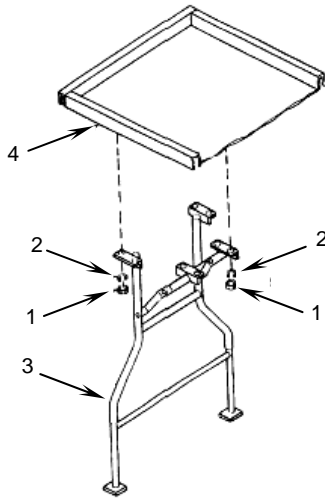

Figure 1. Repairing Drain Table.
- a. Remove eight nuts (**Figure 1, Item 1**) and lock washers (**Figure 1, Item 2**).
- b. Remove table legs (**Figure 1, Item 3**) off table (**Figure 1, Item 4**).
- a. Position table legs (**Figure 1, Item 3**) over the studs on the underside of the table top (**Figure 1, Item 4**).
- b. Secure the legs to the table top using the eight lock washers (**Figure 1, Item 2**) and nuts (**Figure 1, Item 1**) and tighten.